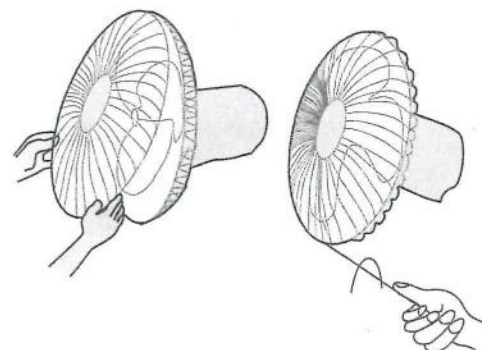

Fig.7
- 3 Fix the front guard and the rear guard with circlip and then tighten the fan guard locking screw and nut. (Fig. 7)